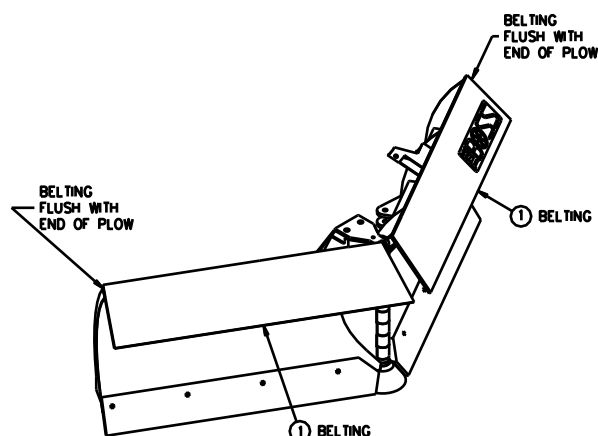

Figure 3. Clamping Orientation
2. Clamp the two pieces of Belting (1) to the Plow as shown in Figure 3. The factory cut edges of Belting (1) must be flush with the outside edges of the Plow Blades.